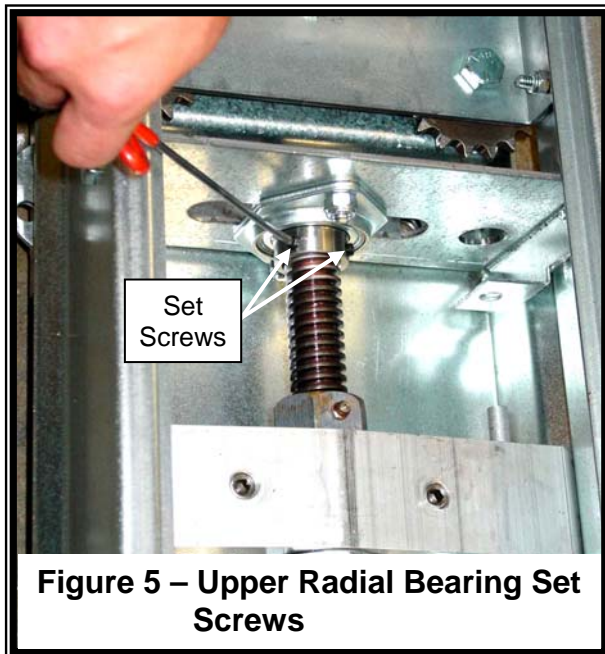

Figure 5 – Upper Radial Bearing Set Screws
- (16) While supporting the load block and drive screw, loosen the upper radial bearing two set screws and carefully lower the drive screw to rest on the delrin bushing. Refer to Figure 5.